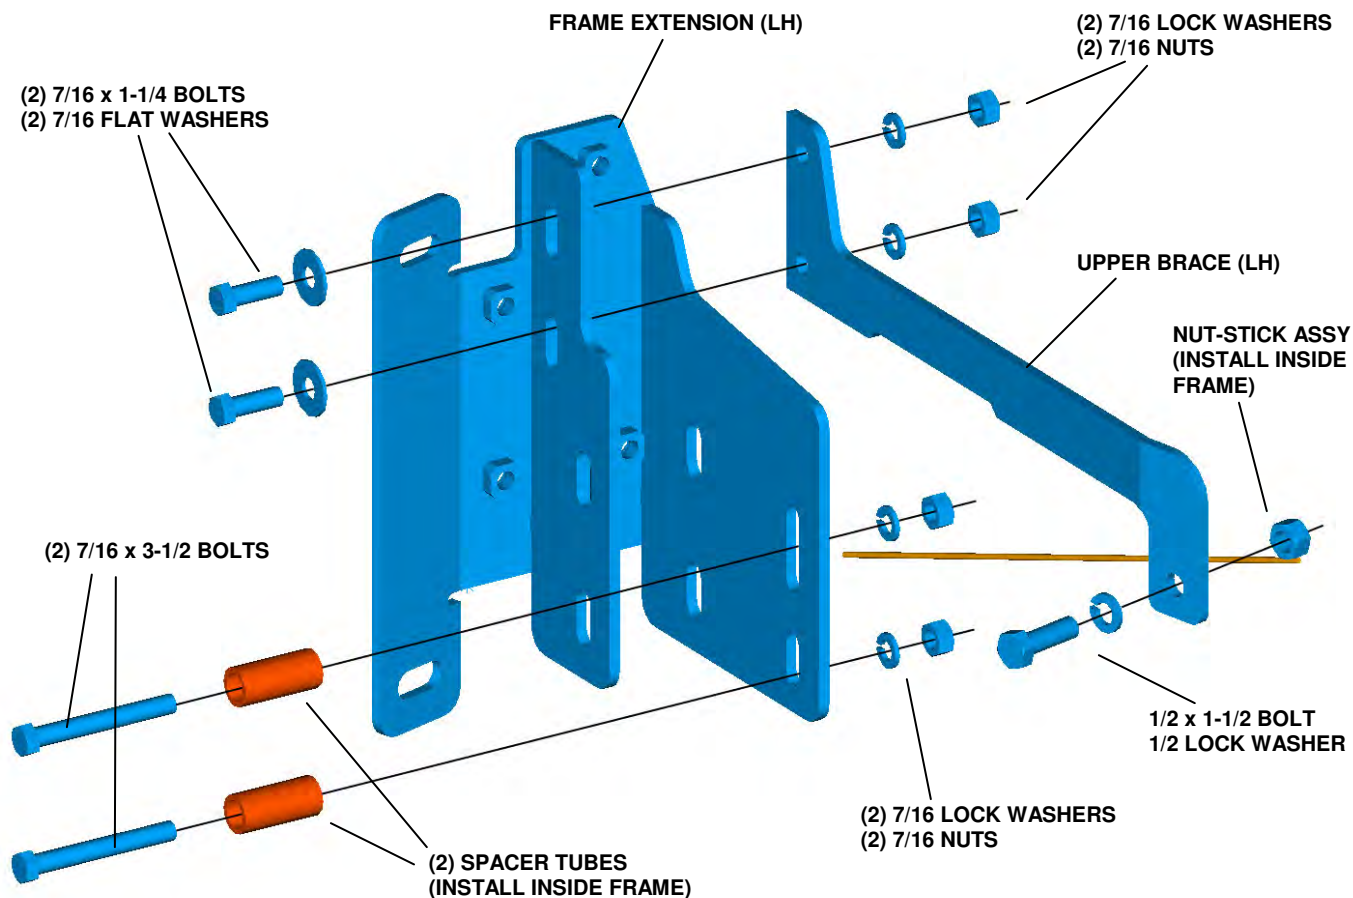

Figure 4 Left Hand Frame Extension, Upper Brace and hardware
8. Attach the Upper Brace to the Frame Extension Bracket with the hardware finger tight. See **Figure 4**. Drill a 1/2” hole through the hole in the end of the Brace into outer frame wall, only. See **Figure 5**.
- 17.** Install the appropriate Frame Extension. Push the 7/16" x 3-1/2" bolts through the Frame Extension and install a 7/16" flat washer, lock washer and nut on each. Lift the intercooler and reinstall the factory "paired bolts" from the inside, through the Frame Extension. Install the factory nuts. Do not tighten any hardware yet. Repeat for the opposite side. See **Figure 4**
- 18.** Attach the Upper Braces to the inside of the Frame Extensions. Use (2) 7/16 x 1-1/4" bolts and flat washers through the Frame Extension into the Upper Brace. Install a 7/16" lock washer and nut on each bolt. Push the intercooler back into position. Install and tighten hardware.